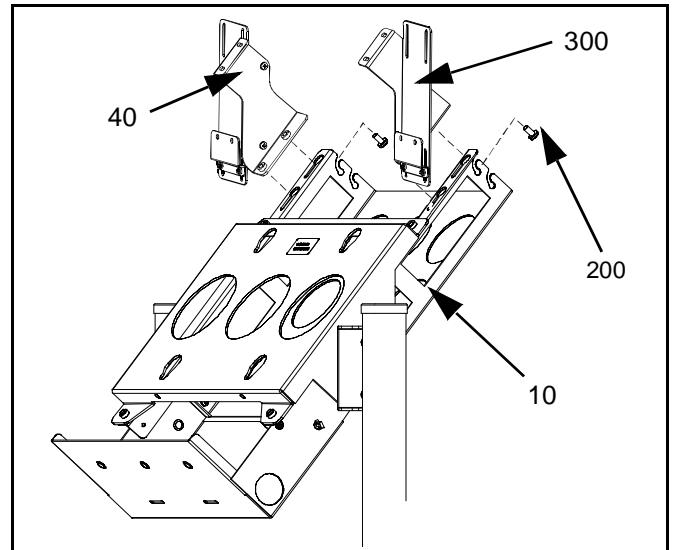

Figure 6: Install Speaker Brackets
1. Install speaker bracket assemblies (40 and 300) to CPU Holder assembly (10) using four PPMS (200). (see Figure 6)